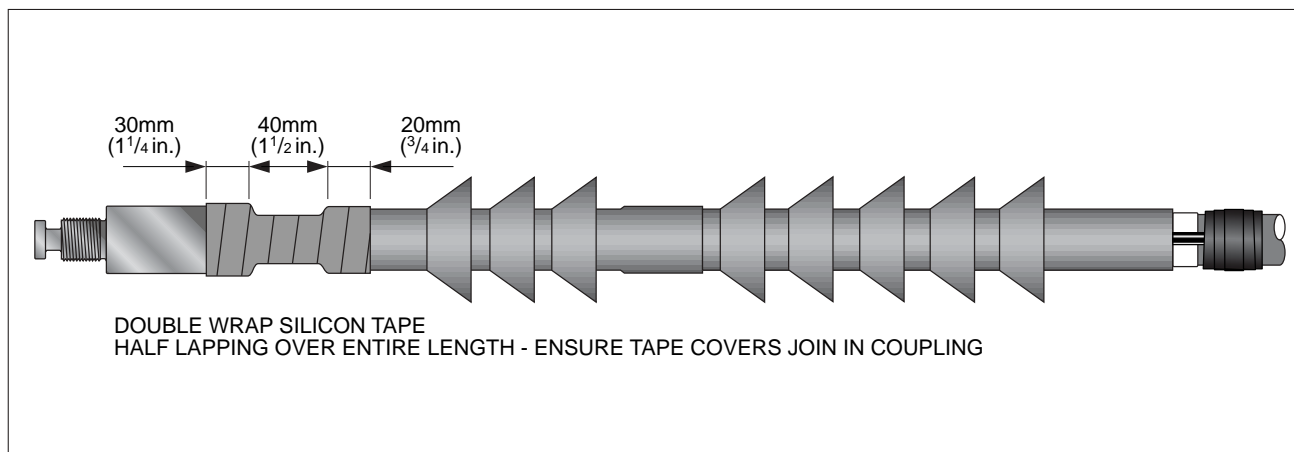

Figure 25.
22. Using the roll of silicone tape (grey), overwrap half layers from 20mm ($\frac{3}{4}$ in.) over the end of the coldshrink to 30mm ($1\frac{1}{8}$ in.) over the coupling so that it covers the joint between the main coupling and compression nut. Refer to Figure 25 on page 40.